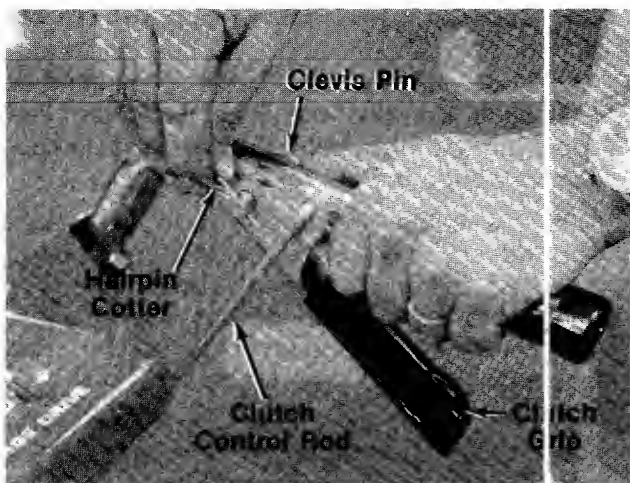
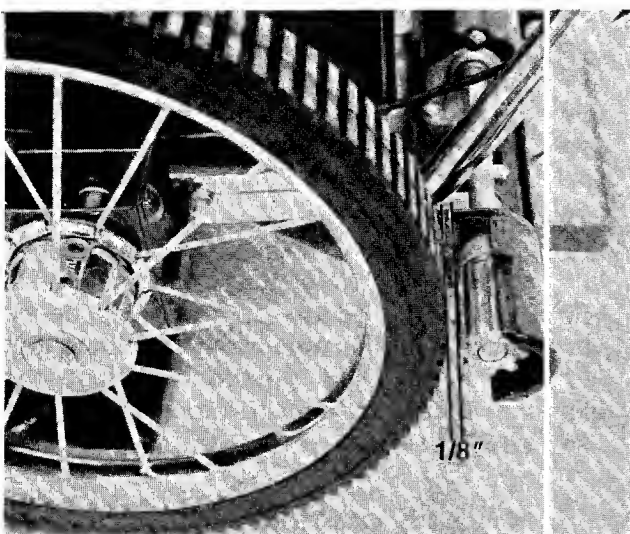

FIGURE 7.
FIGURE 8.
1. Remove hairpin cotter and clevis pin which secure clutch grip to the right hand handle. See figure 7. Remove clutch grip.
3. Hook other end of clutch control rod into clutch grip. Secure clutch grip to handle with clevis pin and hairpin cotter. See figure 7.
- With the drive clutch grip released as shown in figure 7, there should be a minimum clearance of 1/8" between the drive pinions and wheels. See figure 8. With the clutch engaged (clutch grip squeezed), the pinions should engage solidly into the tread of the wheels.
Clearance between drive pinion and drive wheel should be approximately 1/8" when drive clutch grip is released. Refer to figure 8. Excess clearance will cause premature belt wear. Adjust cable as necessary.